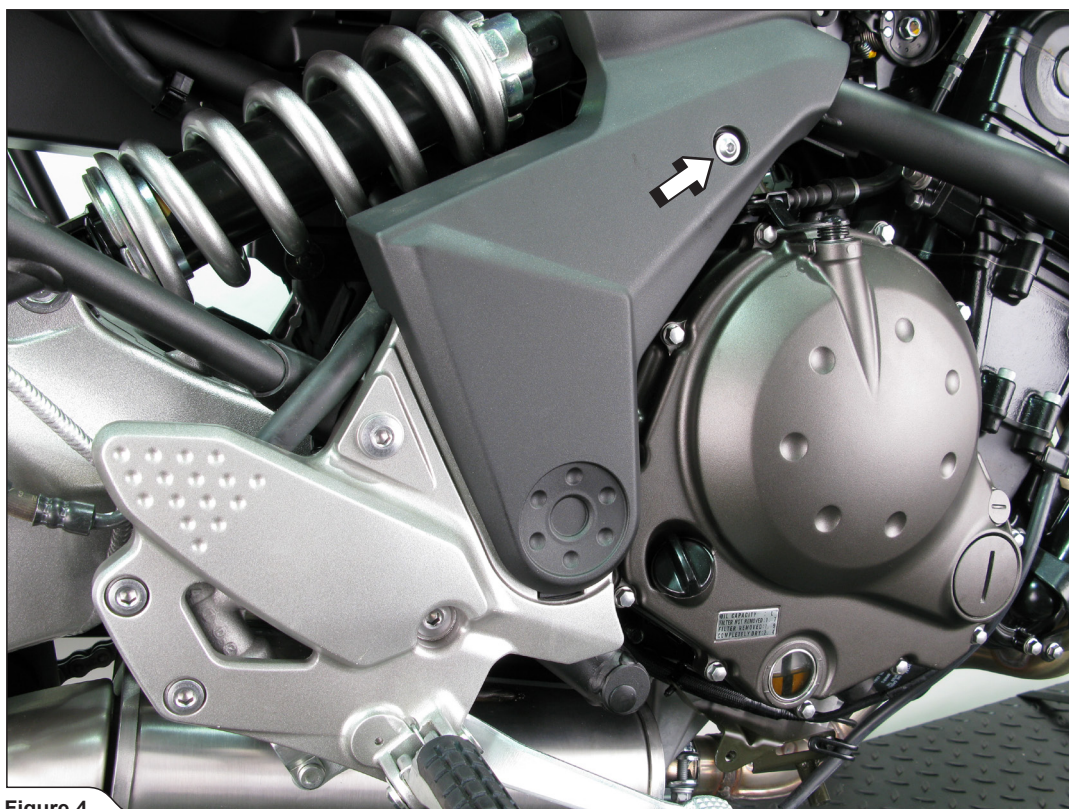

Figure 4
5. For ER-6 Versys: Unscrew the marked bolt and remove the frame guard (Figure 4).